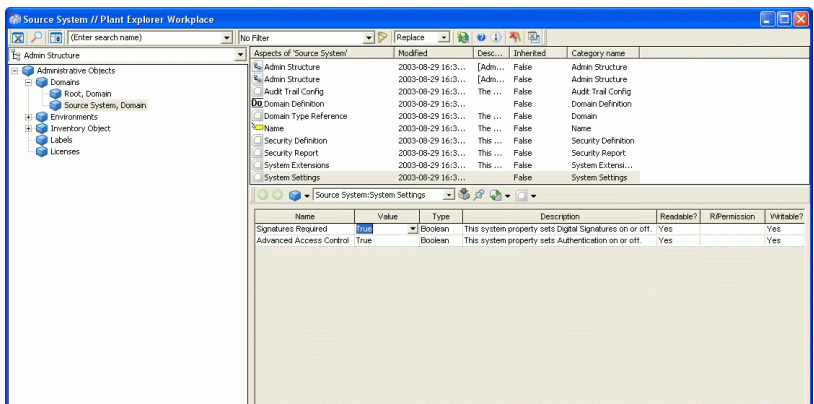

Figure 102. System Settings Aspect - Signatures Required
4. Change the value to **True** in the **Value** drop-down menu. See Figure 102.